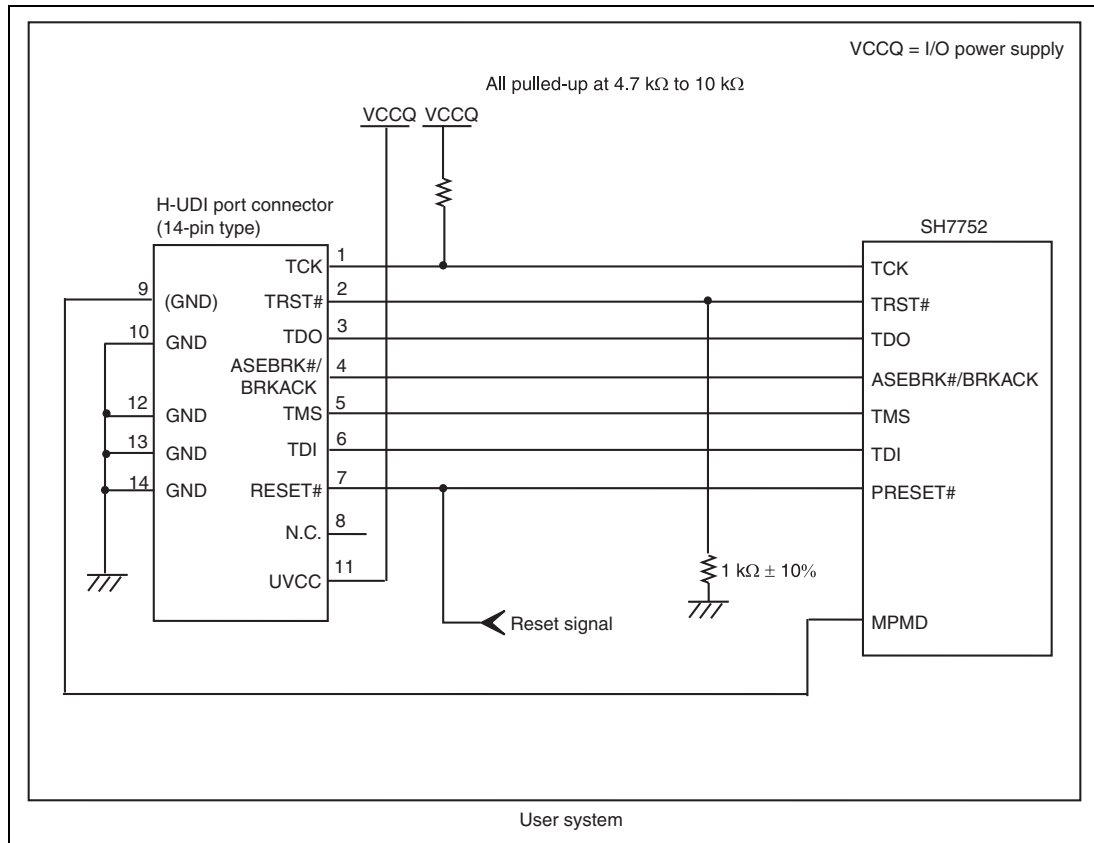

Figure 1.6 Recommended Circuit for Connection between the H-UDI Port Connector and MPU when the Emulator is in Use (14-Pin Type)
Figure 1.6 shows a recommended circuit for connection between the H-UDI port connector (14 pins) and the MPU when the emulator is in use.
- (1) When the emulator is used: MPMD = 0
- (2) When the emulator is not used: MPMD = 1Figure 1.6 shows an example of circuits that allow the MPMD pin to be GND (0) whenever the emulator is connected by using the user system interface cable. When the MPMD pin is changed by switches, etc., ground pin 9. Do not connect this pin to the MPMD pin.
6. The resistance values shown in figure 1.6 are for reference.
When the circuit is connected as shown in figure 1.6, the switches of the emulator are set as SW2 = 1 and SW3 = 1. For details, refer to section 3.8, Setting the DIP Switches, in the SuperH™ Family E10A-USB Emulator User's Manual.